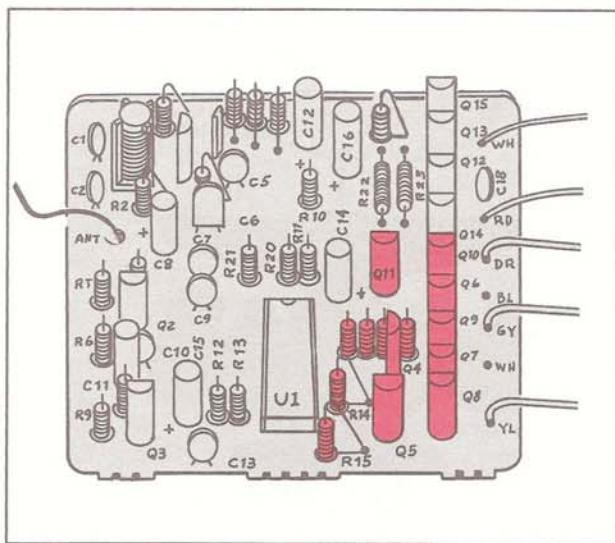

FIG. 80
Refer to Fig. 80 and assemble the final stage of your receiver as follows.
6. This completes construction of this stage and of the entire receiver PC board. Use Fig. 80 to confirm your component placement and check your solder connections.